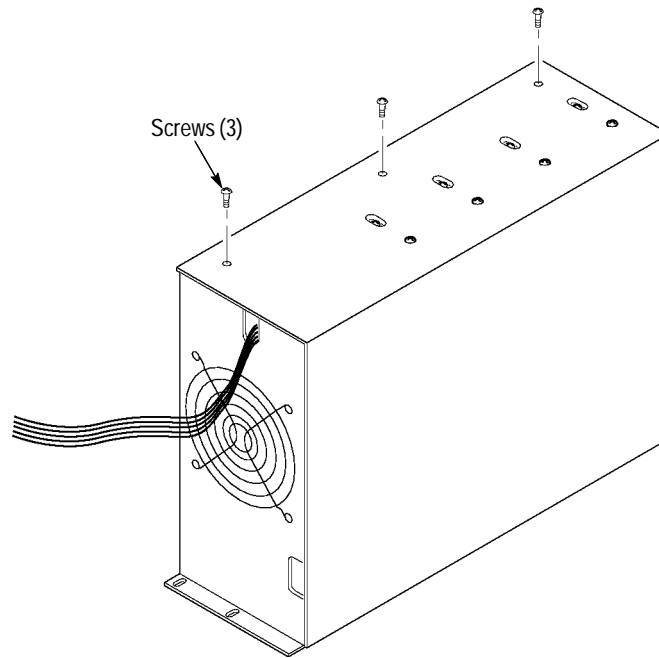

Figure 2–1: Location of Power Supply Frame Screws
2. Remove the three screws holding the power supply frame together, as shown in Figure 2–1.
4. Refer to Figure 2–2 to locate the line voltage selection jacks (J134, J136, J137, J138, and J139) at the rear of the Primary board in the power supply.